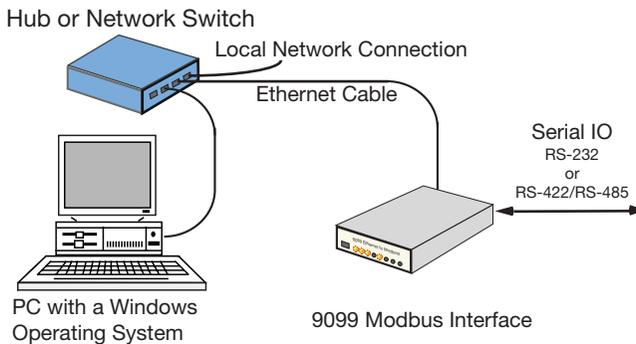

Figure 2-2 9099 with Local or Benchtop Connection
- Connect the AC adapter, serial cable and the Ethernet cable to the unit. Connect the other end of the Ethernet cable directly to a PC or to the PC through a switch that is not connected to your network as shown in Figure 2-2.